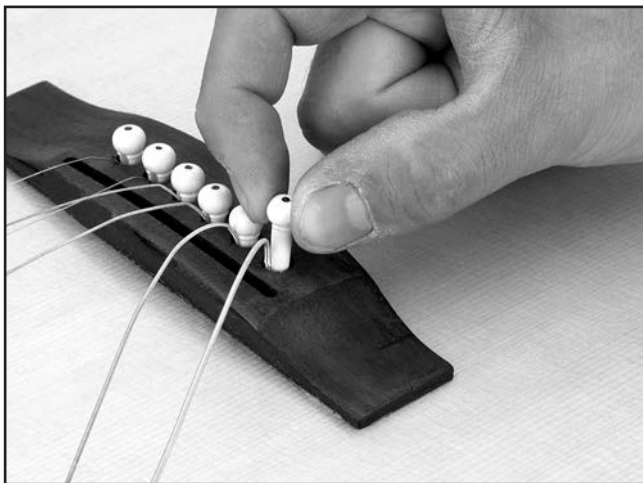

Figure 30. Installing strings.
3. Slide bridge pin down string and into bridge hole (see **Figure 30**).